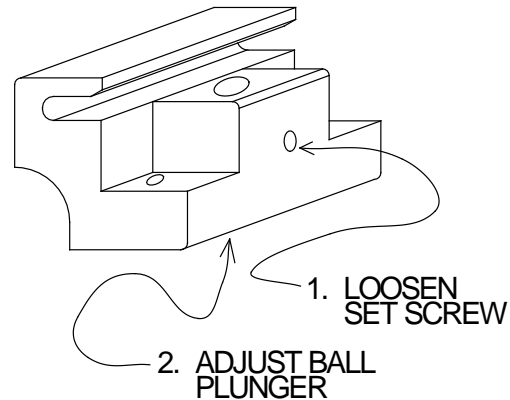

Figure 33
2. Remove the panic block in the top of the door. (See Figure 33)